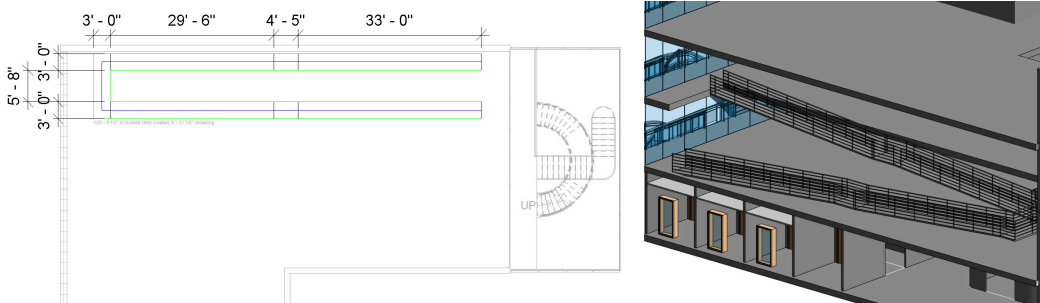

Figure 4.16 Ramp shown in plan view and in 3D view
7. Use the Line tool  to begin drawing the first incline of the ramp as shown in Figure 4.16
8. Pull the cursor away from the first incline to provide a landing as shown in Figure 4.16